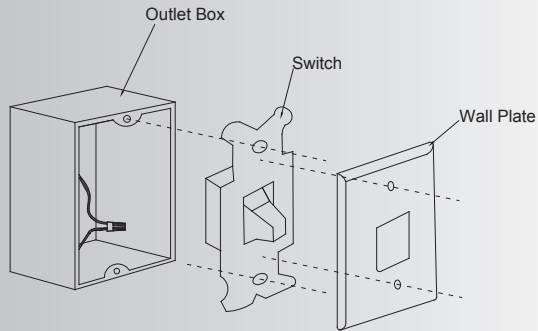

Fig. 16
Step 1. Remove the existing wall plate and the old switch from the wall outlet box. Wire nut the BLACK leads (hot) together and push back inside the outlet box. (Fig. 16) Or Select the desired location with a new wall outlet box.